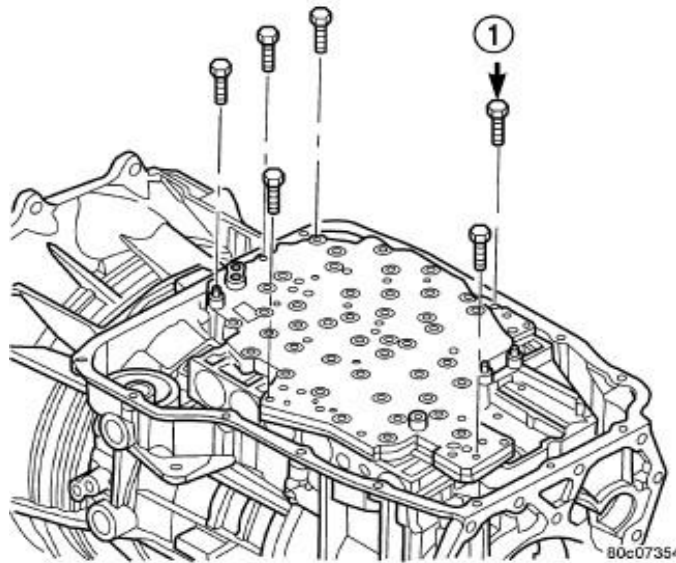

Fig. 2 Transmission Valve Body
7. Remove bolts attaching valve body to transmission case (Fig. 2).
29. Position valve body (Fig. 2) in transmission and align the slot on the TRS selector plate's vertical arm with the pin on the transmission manual lever.